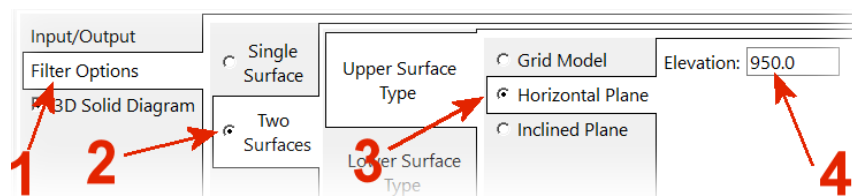

Figure 15
- As shown in Figure 15, set the *Filter Options* (1) to *Two Surfaces* (2), and set the *Upper Surface Type* to be a *Horizontal Plane* (3) at an *Elevation* of 950 (4).